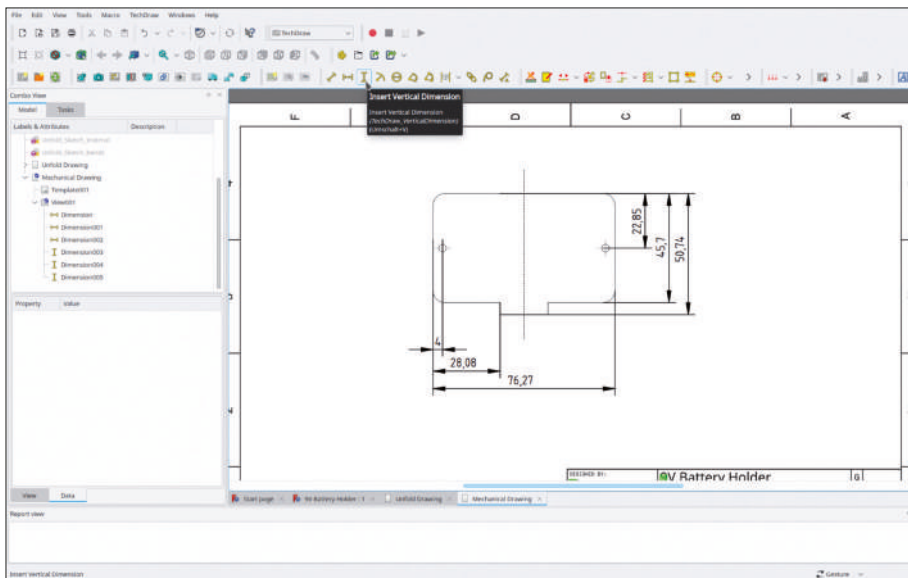

Figure 5-39
10. Then, add the center lines to the other hole, as described in step 6, and add all the vertical dimensions displayed in Figure 5-39.